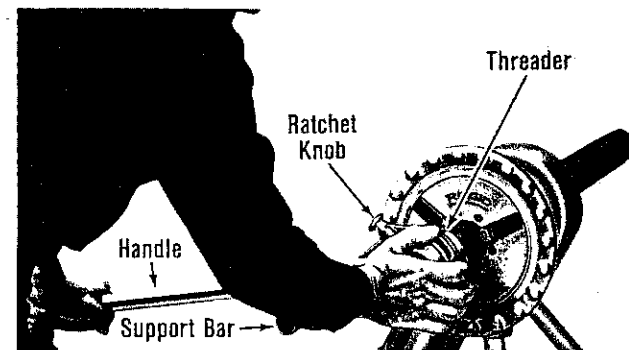

Figure 9. Pushing Threader onto Pipe to Engage Dies.
1. Place Threader on end of pipe with Handle resting on Support Bar (Fig. 9).
4. Step on Foot Switch and push Threader (Fig. 9) with right hand to engage Dies.